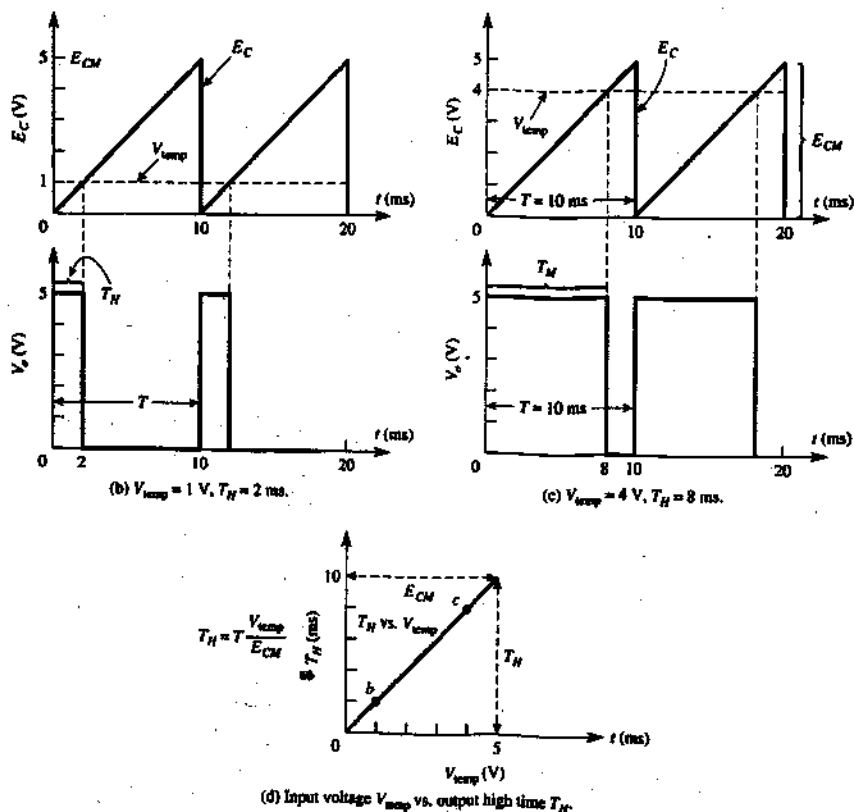

FIGURE 2-16 (continued)
The LM339 comparator in Fig. 2-16(a) compares two input voltages,  $E_c$  and  $V_{temp}$ . [Figure 2-16(b) is similar to Fig. 2-12(a).] A sawtooth wave,  $E_c$ , with constant frequency is connected to the (-) input. It is called a *carrier wave*.  $V_{temp}$  is a temperature-controlled voltage. Its rate of change must be much less than that of  $E_c$ . In this design,  $V_{temp}$  is the signal from the temperature transducer. It can be treated as a variable reference voltage when Fig. 2-16(a) is compared to Fig. 2-12(a) or Fig. 2-5(b).
In this circuit the *input signal* is defined as  $V_{temp}$ . The *output* is defined as the high time,  $T_H$  of  $V_o$ . In Fig. 2-16(b), the output
**FIGURE 2-16**  $V_{temp}$  is defined as the input signal in (a). As  $V_{temp}$  increases from 0 to 5 V the high time of output voltage  $V_o$  increases from 0 to 10 ms. The circuit is called a *noninverting pulsewidth modulator*.
stays high for 2 ms when  $V_{\text{temp}} = 1$  V. If  $V_{\text{temp}}$  increases to 4 V, high time  $T_H$  increases to 8 ms as in Fig. 2-16(c).
characteristics in Fig. 2-16(d). The width of output pulse  $T_H$  is changed (modulated) by  $V_{\text{temp}}$ . The constant period of the output wave is set by  $E_c$ . Thus  $E_c$  carries the information contained in  $V_{\text{temp}}$ .  $V_o$  is then said to be a pulse-width-modulated wave. The input-output equation is